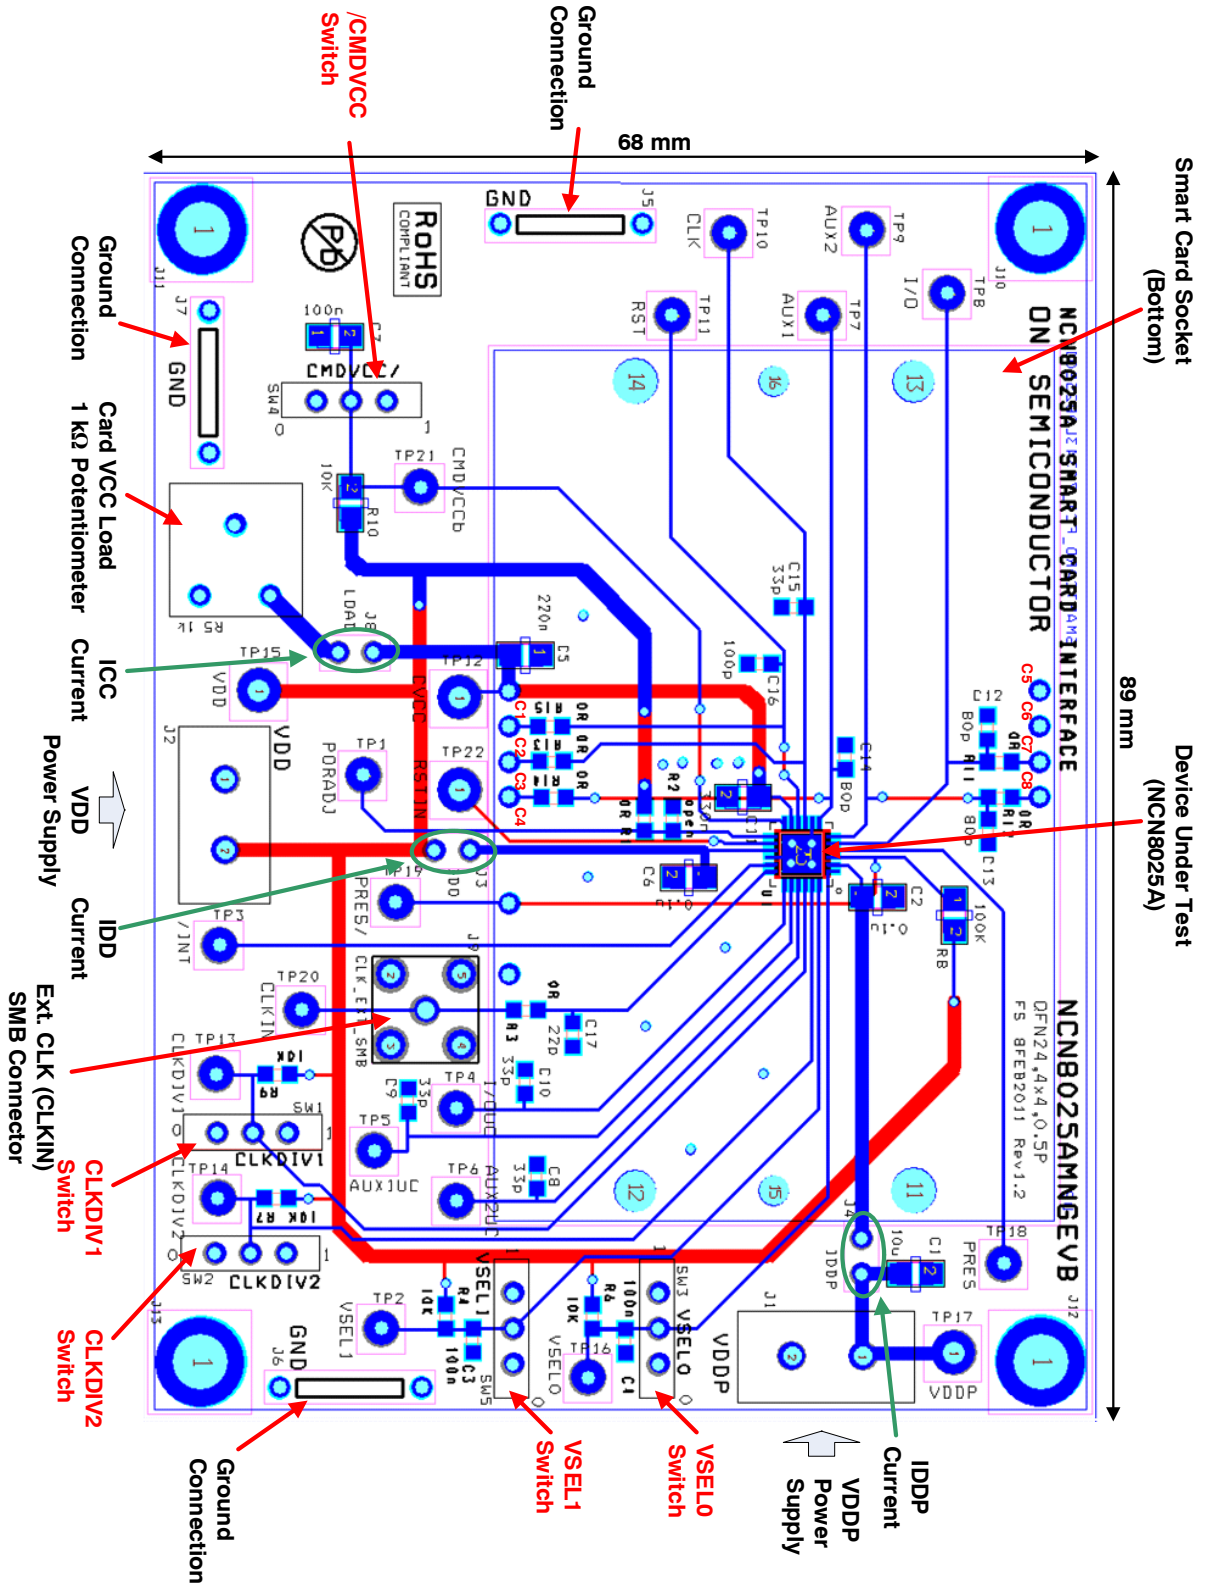

Figure 2. Board Description
See Figure 2.
- 2 pins are used to change the Card VCC power supply or the smart card interface mode which can be 1.8 V, 3.0 V or 5.0 V. These 2 pins are VSEL0 and VSEL1 and on the board, changing VSEL0 and VSEL1 is done using 2 corresponding switches (see Figure 2) according to the below Table 1. When VSEL0 = 0 then VSEL1 is in the mode 5 V/3 Vbar, when VSEL0=1 then VSEL1 is in the mode 1.8 V / 3 Vbar. The initial setup can be VSEL0 = 0 and VSEL1 = 1 for selecting the 5 V mode. The card VCC (CVCC) output voltage cannot be changed on the fly when the smart card interface is active (/CMDVCC = Low). For changing card VCC it is necessary to deactivate the device then to reconfigure the card VCC by setting the appropriate VSEL0 and VSEL1 finally the smart can be activated again with this new smart card power supply voltage.